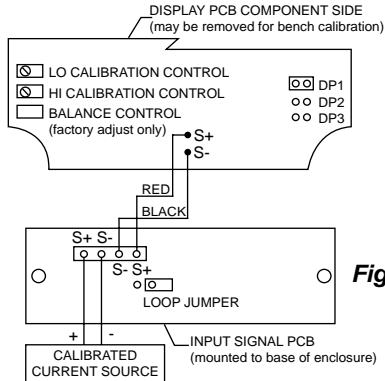

Figure 1
To access the input terminals it is necessary to remove the enclosure cover and the Display PCB. This is done by loosening the four screws on the enclosure cover and removing the cover. Completely loosen the left screw that holds the Display PCB to the enclosure and loosen the right screw about four turns so the Display PCB remains attached to the enclosure. Rotate the Display PCB 90° to gain access to the Input Signal PCB. Next, connect a calibrated current source as illustrated in Figure 1.
LO and HI calibration controls are located to the left of the display (see Figure 1). Apply a signal equal to 4 mA and adjust the LO control to display the desired reading. Apply a signal between 16 and 20 mA and adjust the HI control to display the desired reading. Complete the calibration procedure by making any minor adjustments to the LO and HI controls.
3. Connect red wire to S+ terminal and black wire to S- terminal, as shown in Figure 1.